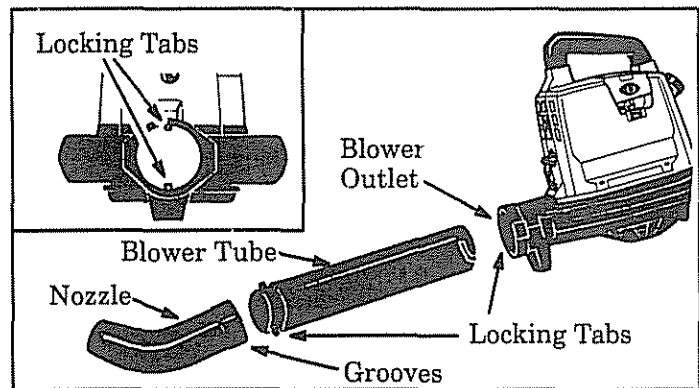

Figure 1
1. Locate the two Locking Tabs on the side of the Blower Tube. Figure 1.
4. Align Grooves on the Blower Tube with Locking Tabs in the Blower Outlet (Figure 1, inset) and push the Blower Tube into the Blower Outlet.